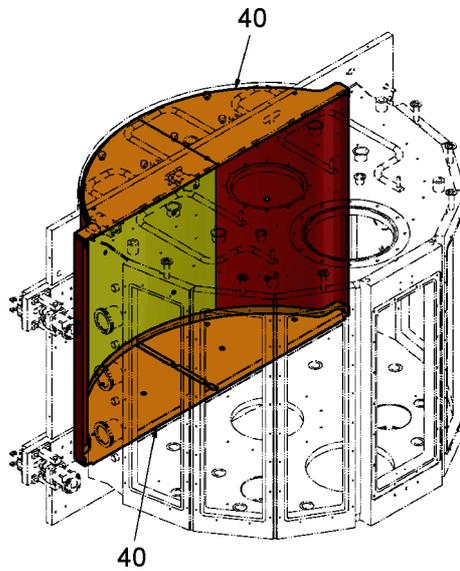

Fig. 7-15
- 6** Remove the door shields 40. See Fig. 7-15, 177.
14 Mount the door shields 40. See Fig. 7-15, 177.